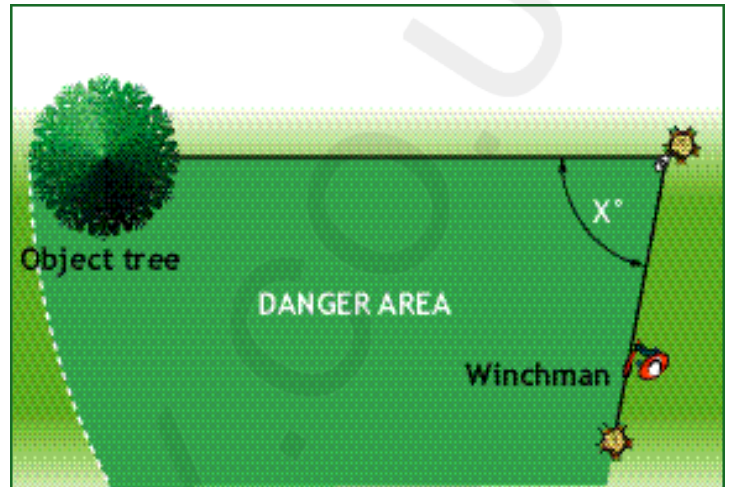

Figure 2 Offset winching and danger zone
- 20 Adiverted pull may be used in confined sites to allow the operator to work in a safe position. Avoid walking or working in the triangle created by the offset winch cable (see Figure 2).
- 22 Be aware that when a snatch block is used, the loading on the block and anchor point can be doubled. The more acute the angle created, the greater the increase in loading (see Figure 2 angle X°). The pulley block, strop and anchor point must therefore be up-rated accordingly.